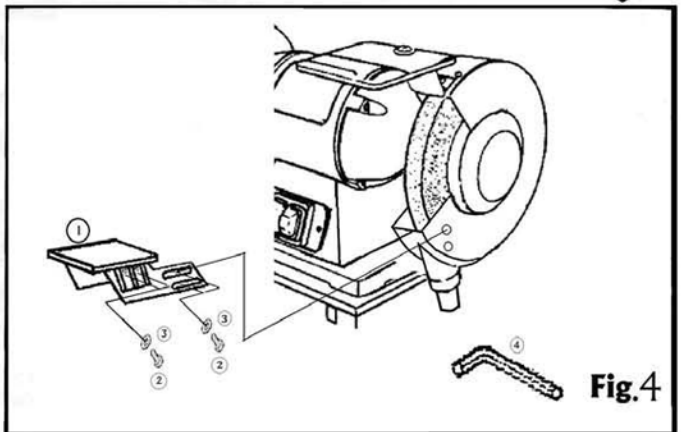

Fig. 4
- These parts are shown in figure 4.